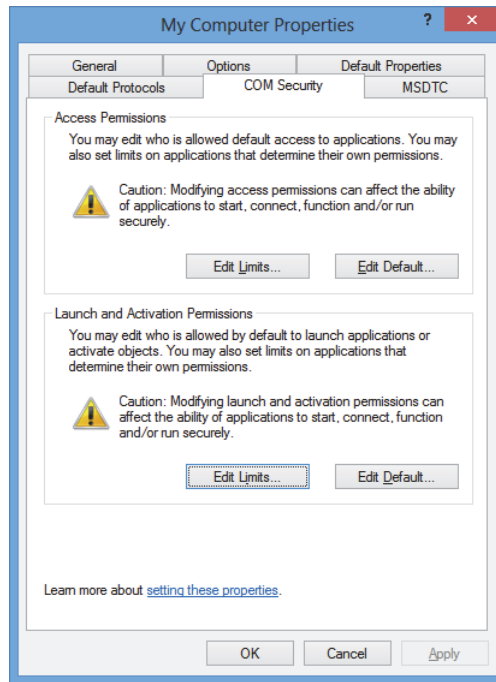

Figure 2-8 The COM Security tab in the My Computer Properties dialog box
7. In the **My Computer Properties** dialog box, select the **COM Security** tab, and then, under **Launch and Activation Permissions**, click **Edit Limits** (see Figure 2-8 on page 36).